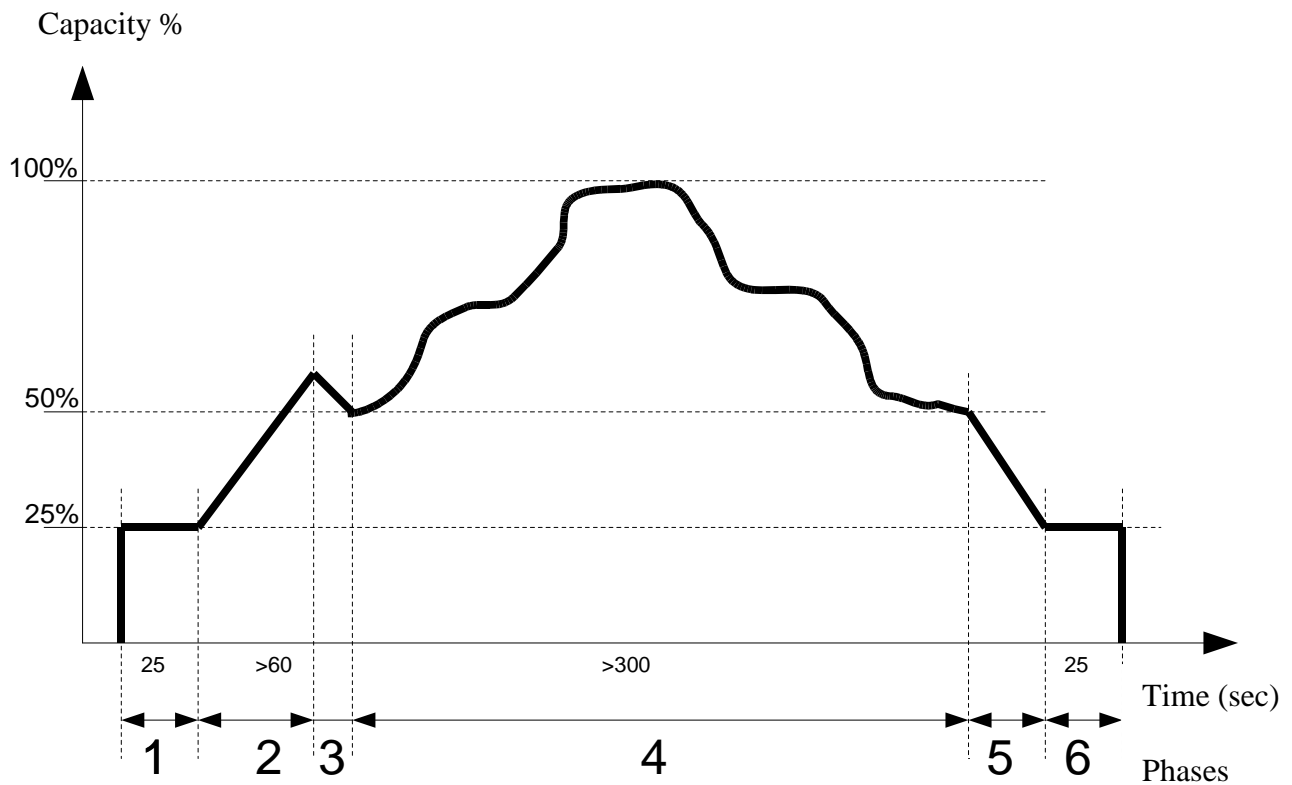

Figure 3-P Logic control of solenoid valves for stepless configuration
In the models 255/285/305/755/785/885/985 with this configuration, see picture 3-O, the plate (4) is configured so that the solenoid valve (16) controls the oil flow entering the hydraulic cylinder that operates the slide valve (section of the circuit marked by numbers 3 and 4 in Figure 3-B). The 75% step control function is disabled, and for this reason the section of circuit marked by numbers 1 and 2 in picture 3-A will not be shown in picture 3-O below.
To limit the peak current when starting, the electric motors are started in the part-winding configuration, or alternatively with the windings connected in the star configuration (see chapter EA-05: '*Electrical devices*'). This, however, means also a drop in the starting torque, and as a result the resisting torque needs to be reduced in order to start the compressor without excessively overloading the electric motor. For this purpose, Refcomp recommends to start the compressors at the minimum capacity step, see Figure 3-Z.